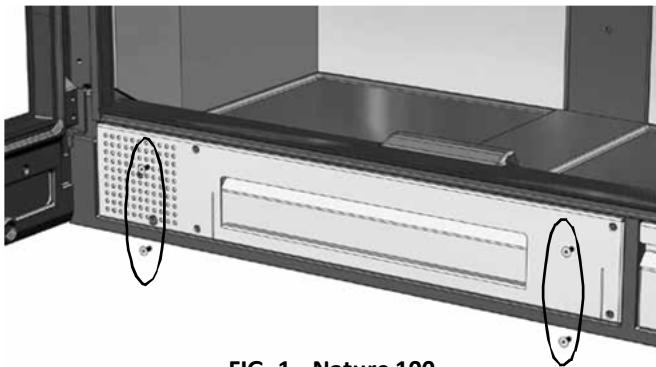

FIG. 1 - Nature 100
1. Remove the four screws holding the front of the fan support tray (Fig.1). **In the case of Nature 70/80 models, there are two screws instead of four.**